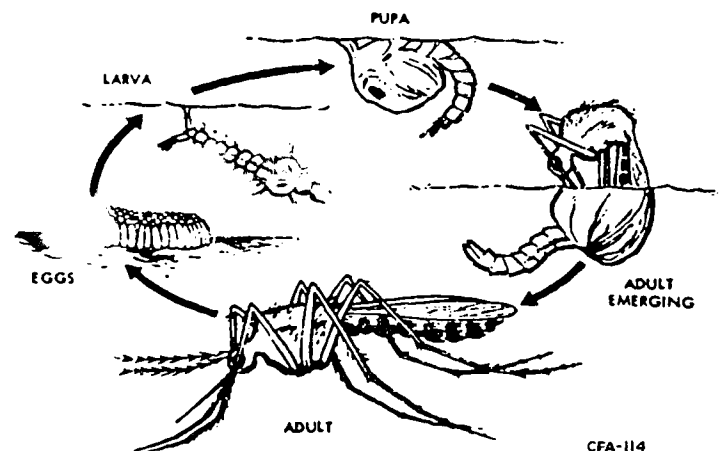

Figure 2-9. Life cycle of the mosquito.
**Breeding.** Mosquitoes will breed in practically any collection of water which stands longer than 5 to 7 days, (see fig. 2-9). Those breeding in and around human dwelling places are called domestic mosquitoes. Different kinds of mosquitoes vary in their choice of breeding places. Some like sunlit places; others prefer the shade. Some prefer fresh water to stagnant water; others prefer the brackish water of salt marshes. Common breeding sites are ponds, swamps, and ditches, rain barrels, road gutters, pit latrines, and excavation sites.